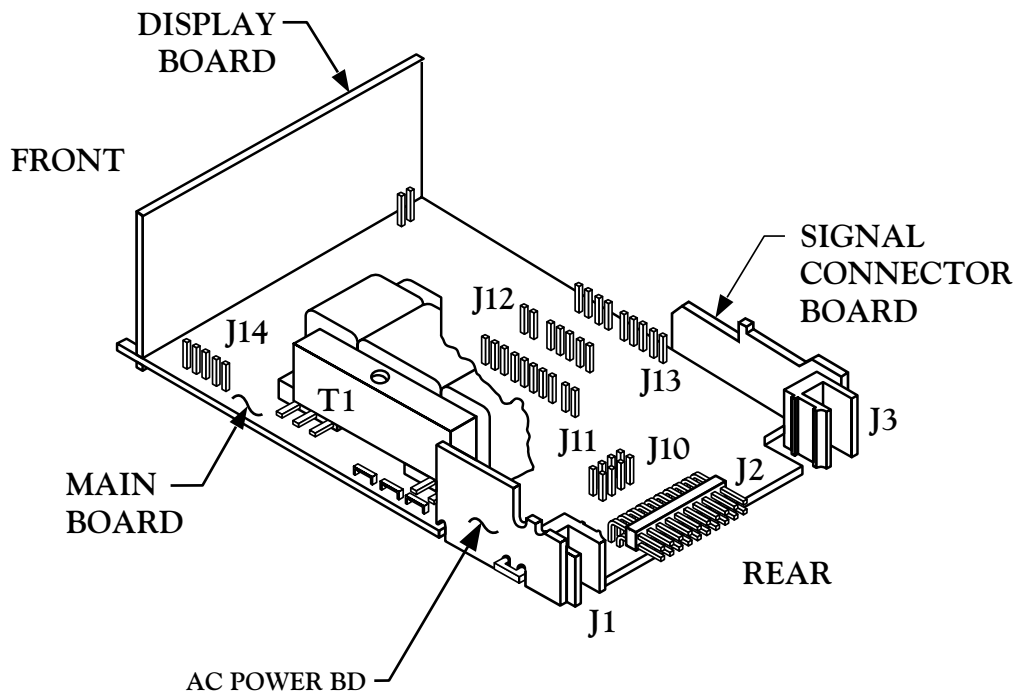
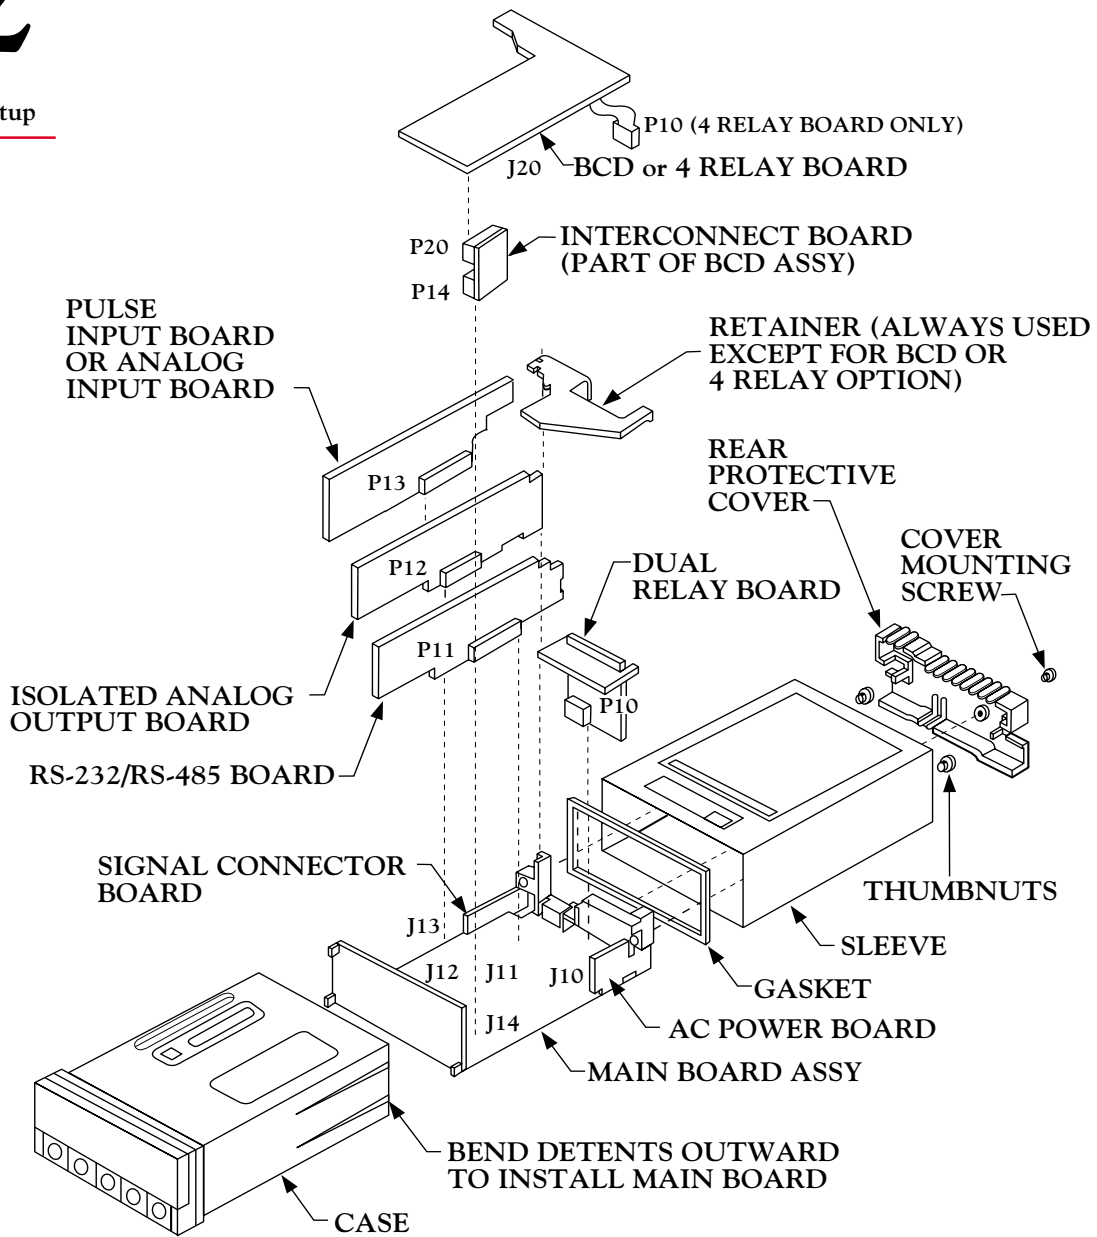

Figure 2-7. Main Board
Figure 2-8. Exploded View of Main and Optional Boards
Figure 2-7 shows the Main Board and Figure 2-8 shows an exploded view of the meter with the optional board locations. In Figure 2-7, the “front” of the board refers to the side with the Display Board; the back is the side with J1 and J2 connections. Refer to Figures 2-7 and 2-8 as you insert optional boards. All boards must be jumpered before insertion. See Section 2.3.2.
2. Insert the P20 connector of the Interconnect Board onto the J20 pins on the BCD Board. (See Figure 2-8.)